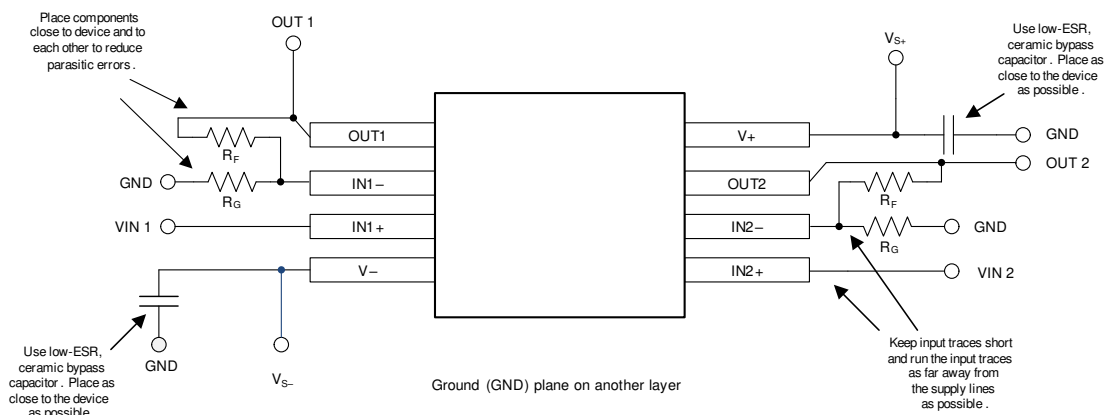

图 39. Layout Example
- Place the external components as close to the device as possible, as shown in 图 39. Keeping R_F and R_G close to the inverting input minimizes parasitic capacitance.